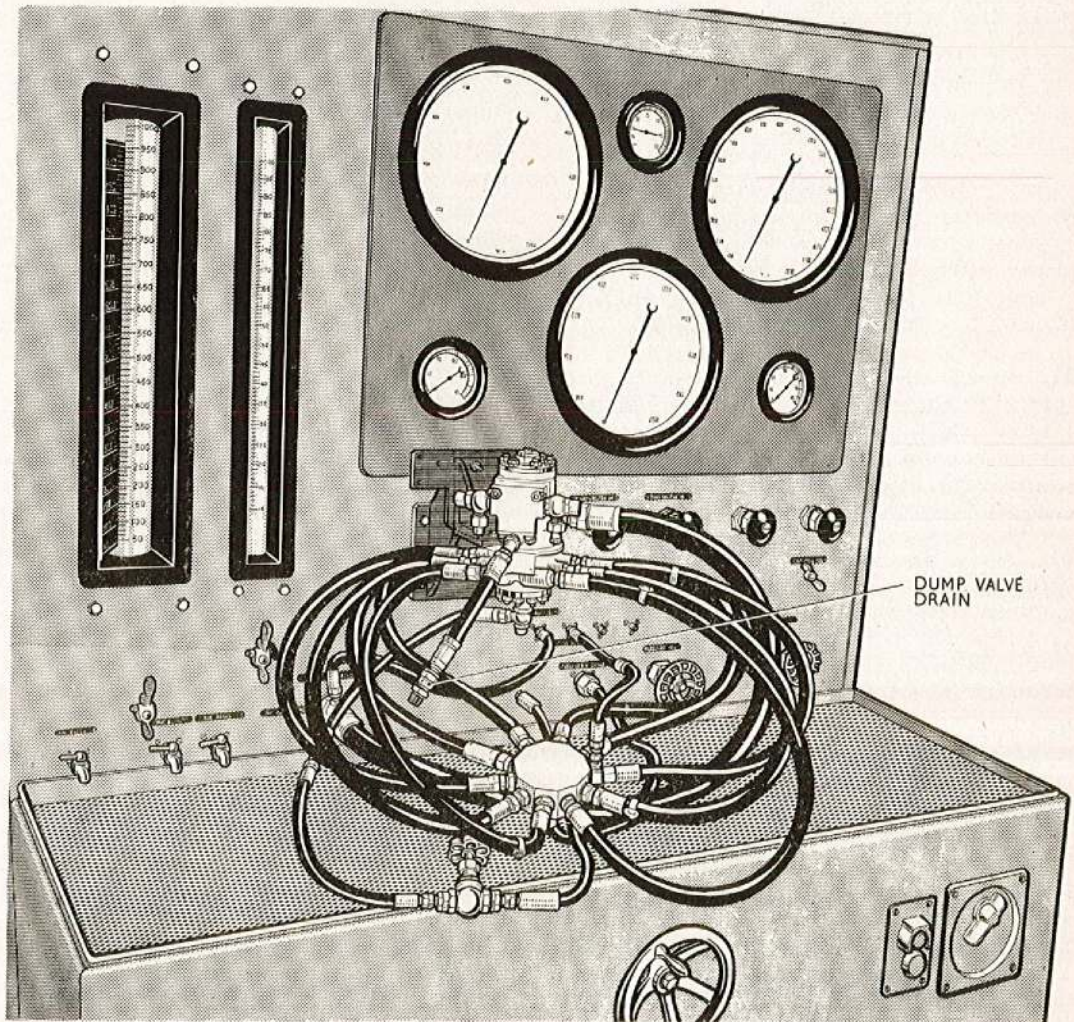

Fig. 8. Test rig
88. In this rig-test (*fig. 8*) the distributor delivery unions are connected to a common collecting box having a single outlet pipe which returns the fuel through a pressure gauge tapping point and manually-variable restricting cock to the rig tank. The pressure gauge indicates the fuel delivery pressure whilst the cock enables a controllable pressure to be applied downstream of the flow distributor so as to simulate the combined restriction imposed by the burners in an actual engine installation.